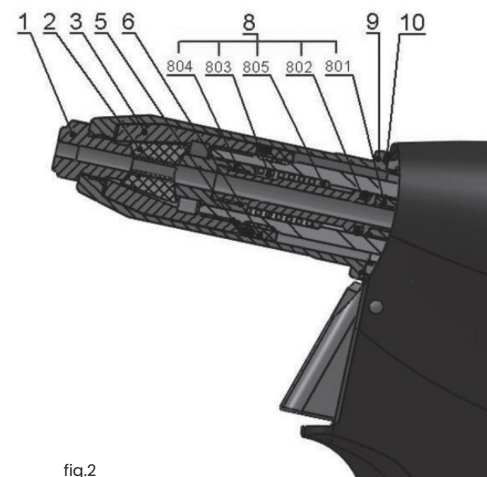
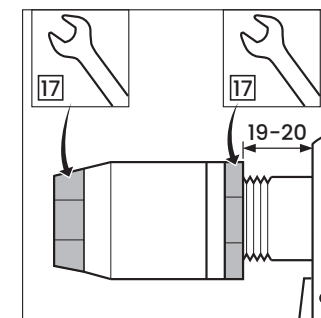

fig.2
fig.3
Disconnect the tool from the source of compressed air, unscrew the front nozzle /fig.2 - pos.9/ by means of a spanner no.23, set the spanner no.17 onto the clamping sleeve /fig.2 - pos.9/, set the spanner no. 17 on the backnut /fig.2 - pos.6/ and loosen. Unscrew the clamping sleeve, replace the jaws /fig.2 - pos.2/ and conduit-suction complete /fig.2 - pos.8/. All used threads are clockwise. Clean the dismantled parts thoroughly and check them visually, especially the following:
1. Jaws /fig.2 - pos.2/ - if worn or damaged, replace it, if dirty, clean it with a wire brush.
2. Nosepiece /fig.2 - pos.1/ - for wear of functional surfaces of the taper.
3. Conduit-suction complete /fig.2 - pos.8/ - inspect parts of the assembly, jaw pusher /fig.2 - pos.804/, spring /fig.2 - pos.803/, washer of spring /fig.2 - pos.803/, O - ring /fig.2 - pos.802/ and conduit-suction /fig.2 - pos.801/ - if damaged or worn, replace it with a new one.
4. Front nozzle /fig.2 - pos.9/ - check for damage of the internal surface [Ø 20].
5. Scraper ring /fig.2 - pos.5/ - if damaged or worn, replace it with a new one.
Mount the parts [see par. disassembly] in a reverse order. On the outer surface of the jaws /fig.2 - pos.2/ apply a drop of lubricating oil [we recommend hydraulic oil HLP ISO VG32], apply thin layer of plastic lubricant MOGUL LV 2-3 to the conduit-suction complete /fig.2 - pos.8/. Basic set-up of the jaws is performed as in fig.3.